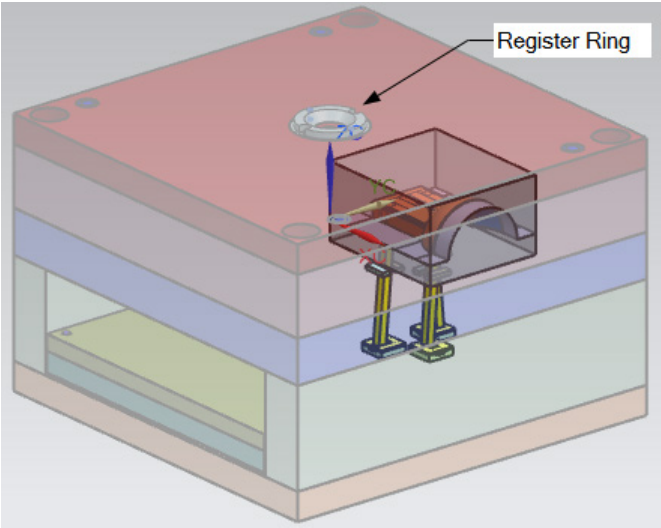

Figure 16-118 The arrangement of register ring in the mold assembly
3. Select **M8** and **12** from the **Type** and **H** drop-down lists respectively. Enter **100** in **D** edit box of the **Details** rollout and then choose the **OK** button; the **Information** window and the **Standard Part Management** dialog box is closed. Also, another **Information** window is displayed. Choose the **Close** button to close the window. Refer to Figure 16-118 for arrangement of register ring.